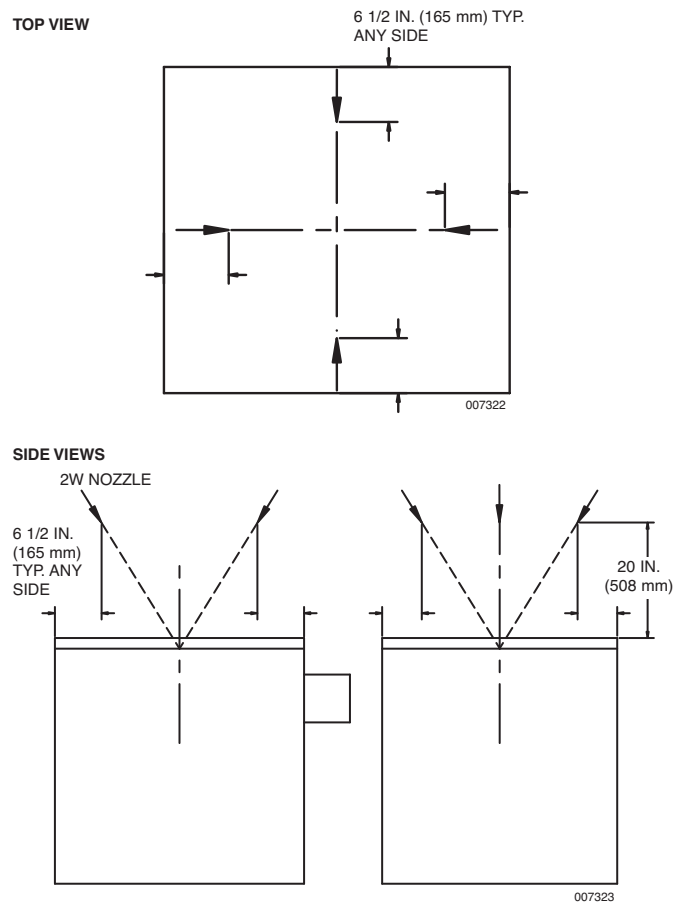

FIGURE 84
- **Nozzle Quantity/Type:** (1) One 2W nozzle, Part No. 419337.
- **Nozzle Height:** 20 in. (508 mm) above top of converter. See Figure 84.
- **Nozzle Location:** Centered 6 1/2 in. (165 mm) back from any edge of the appliance. See Figure 84.
- **Nozzle Aiming Point:** Aimed at center of opening. See Figure 84.